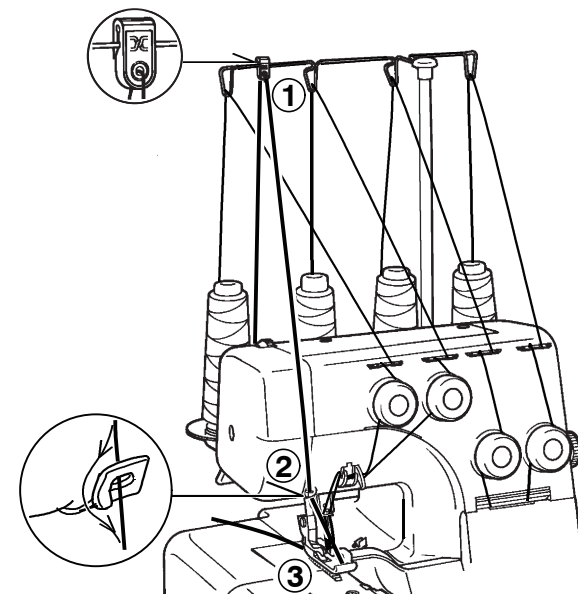

Fig. 1 / 1. Ábra / 1. Nákres
1. Place a "filler" cord, such as a crochet cotton, gimp, wool, knitting yarn, or shirring elastic at the rear of the machine spool pin. Pass the cord through the cord guides (1) and (2) and then through the left needle thread guide (3). See Fig. 1.